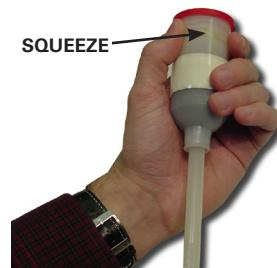

Figure 2
6. Pull the mixing rod up to the top of the cartridge. See Figure 2.